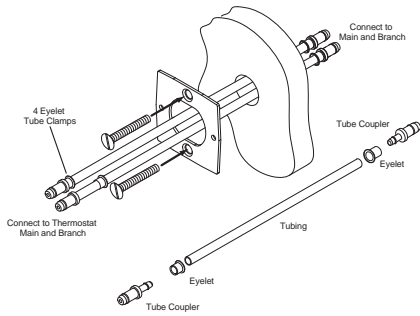

Figure-1
2. Connect the assembly by inserting the tube couplers into existing tubing in the wall (Figure-1). Note which connection is Main and which connection is Branch.